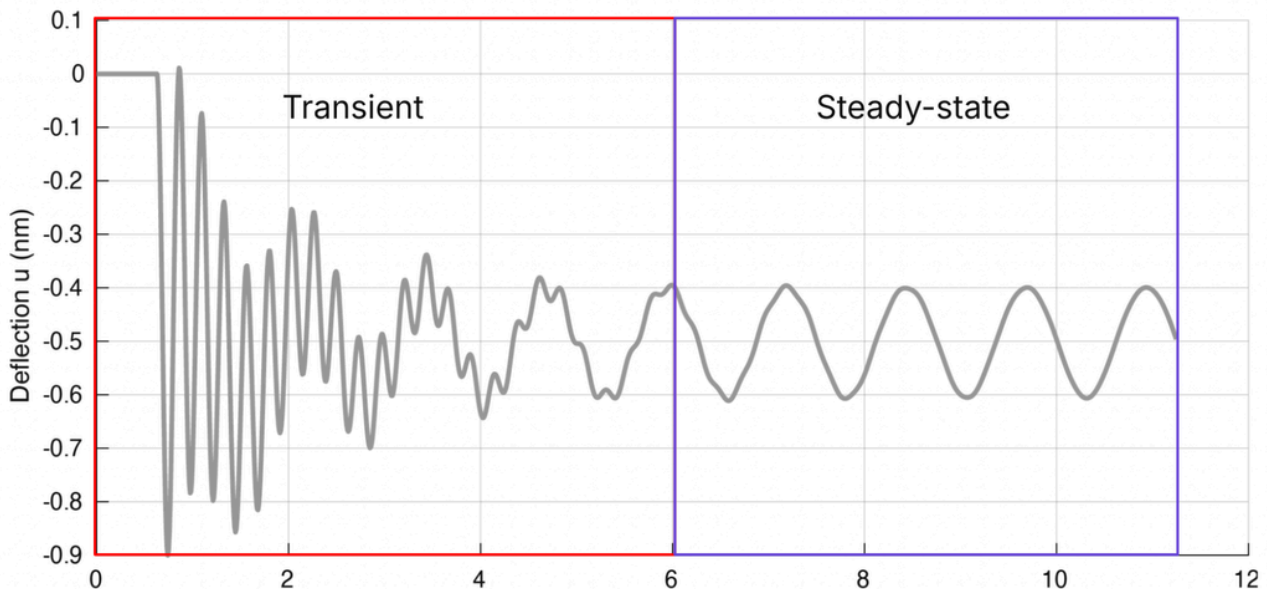

Fig. 2
- **Steady-state requirement:** Transient analysis requires a steady-state periodic response before extracting frequency information. This can be computationally expensive, especially with long transient periods (thousands of cycles). The vibrating disk example illustrates this (see fig. 2).